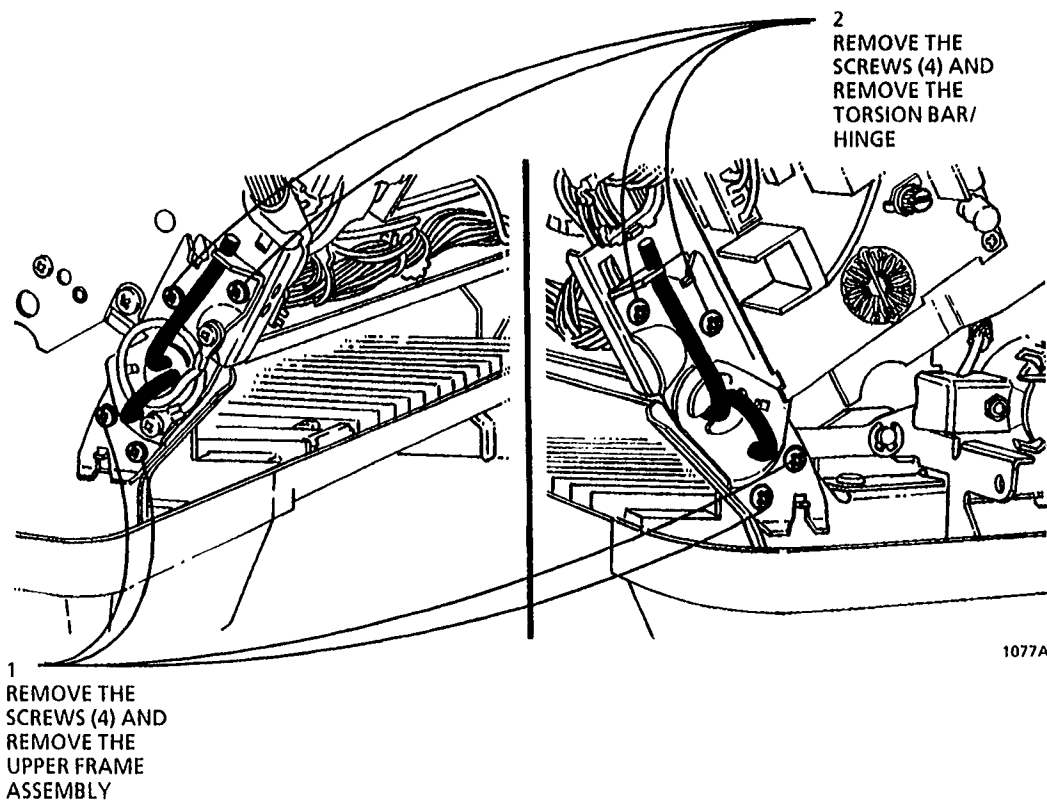

Figure 1. Removing the Torsion Bar / Hinge
3. (Figure 1): Remove the Torsion Bar/ Hinge.